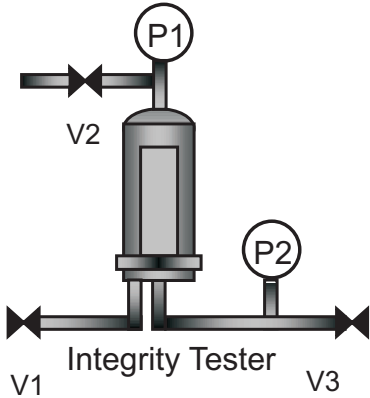

Figure 1: Typical installation
1. Set up intallation as shown in Figure 1 and close all valves (V1, V2 and V3).